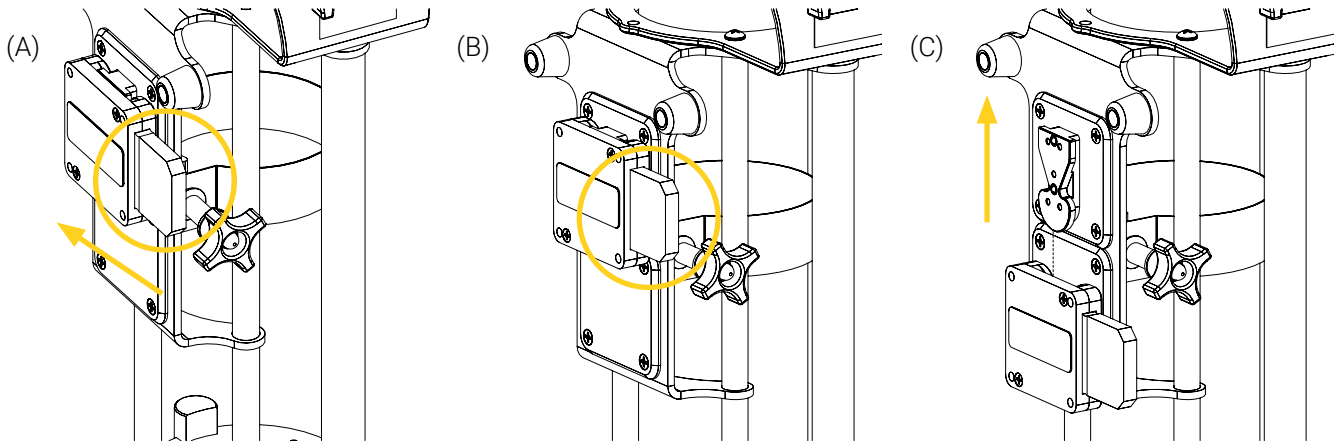

Figure 25: Removing the mounting bracket from the Flex Sequir
1. Press and hold the quick release button of the Flex Sequir, then pull the mounting bracket vertically (Figure 25) or horizontally (depends on the mounting clip position) out of the mounting system, paying attention not to wedge the tubing.